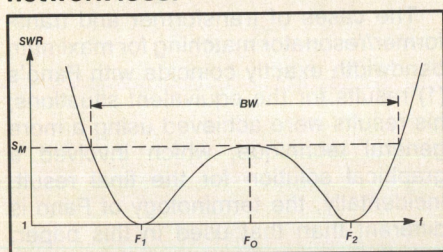

Figure 7. Perfect match at two frequencies.
It is possible to find a value of Z_N which provides a perfect match at two frequencies, as seen in Figure 7 (6). For this case,